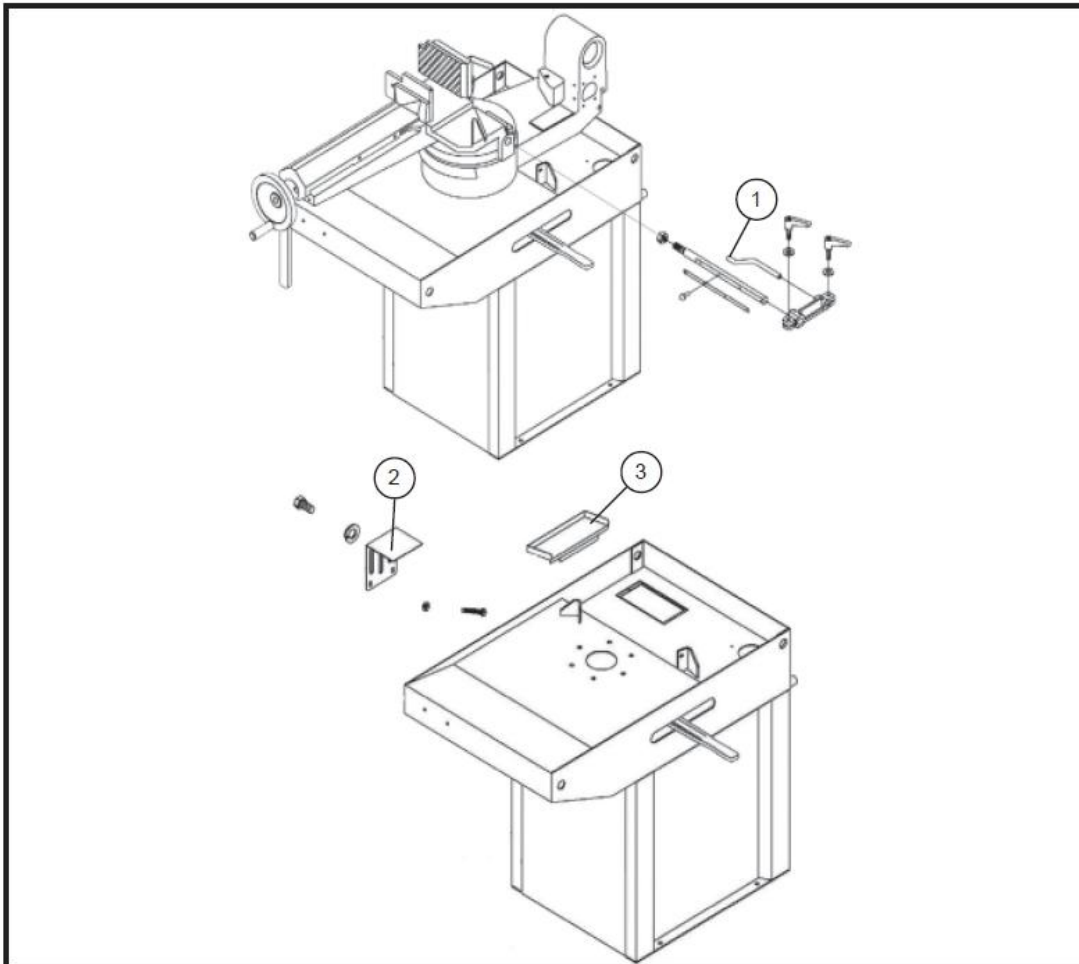

Fig. 3-10
- Mount the material bar-stop (1 fig. 3-10).
- Mount the material support plate (2 fig. 3-10).
- Mount the splash guard plate (3 fig. 3-10).